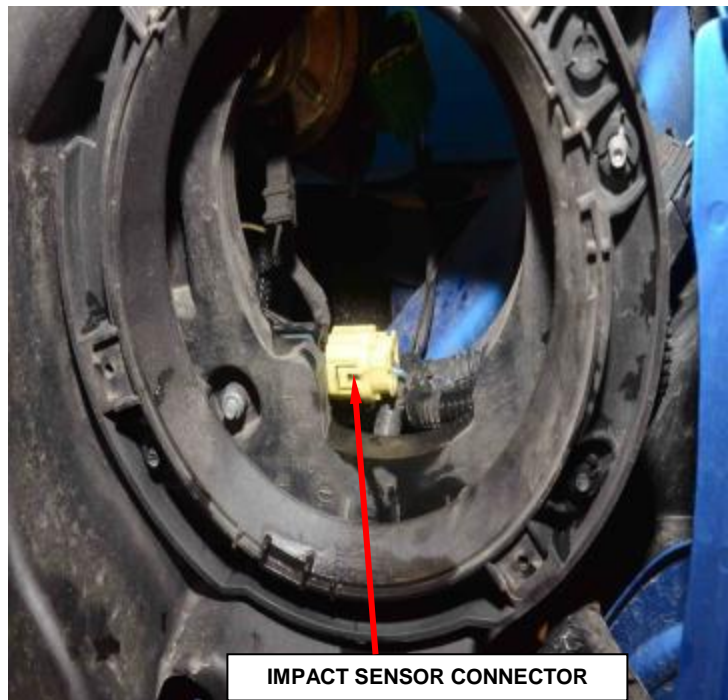

Figure 12 - Left Side Impact Sensor
32. Disconnect the left side engine compartment wire harness connector from the right front impact sensor connector receptacle (Figure 12).
52. Connect the left front impact sensor connector (Figure 12).